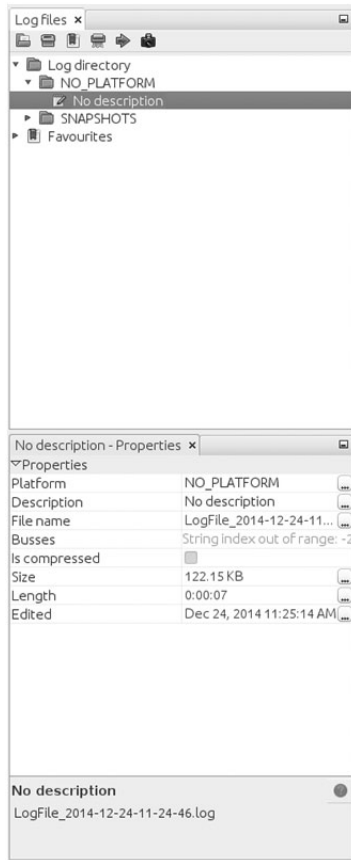

Figure 5-5: Right pane of Log files tab settings
To record CAN packets with Kayak, first click the Play button in the Log files tab ❶. Then drag one or more buses from the Projects pane to the Busses field of the LogOutput Window tab ❷. Press the Record and Stop buttons at the bottom of the LogOutput window ❸ to start or stop recording. Once your packet capture is complete, the logging should show in the Log Directory drop-down menu (see Figure 5-5).
Other than some metadata (PLATFORM, DESCRIPTION, and DEVICE_ALIAS), the log is pretty much the same as the one captured by the can-utils package: ❶ is the timestamp, ❷ is your bus, and ❸ is your arbitration ID and data separated by a # symbol. To play back the capture, right-click the **Log Description** in the right panel, and open the recording (see Figure 5-5).